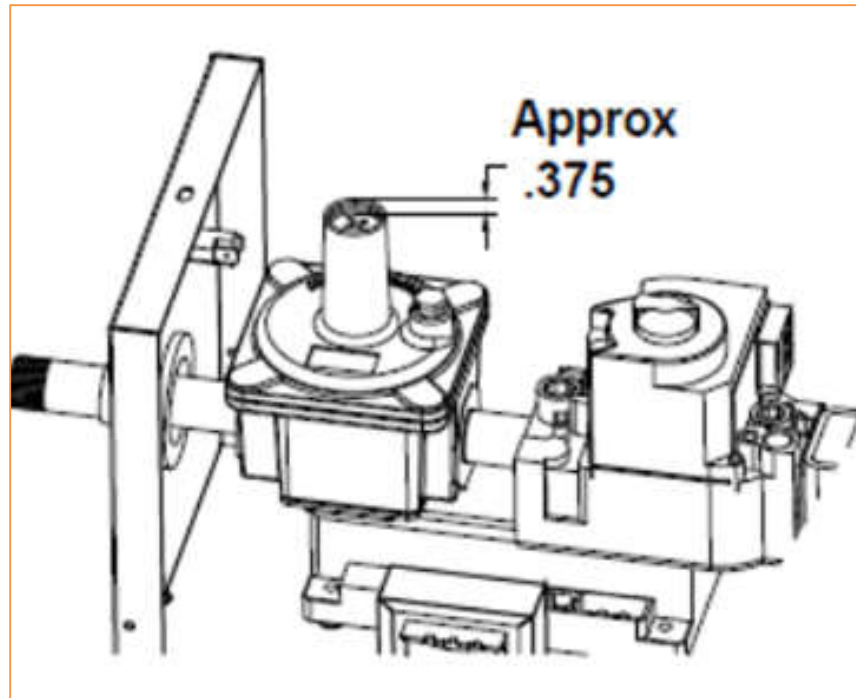

Figure 50: Adjustment Screw Starting Position
2. The zero regulators come factory set as shown in Figure 50. Make sure the one you are working on has not been tampered or set incorrectly.